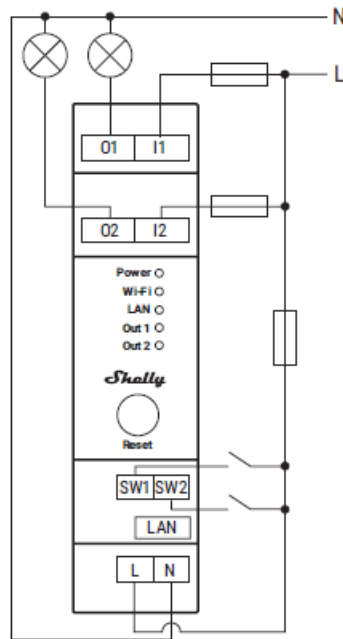

Fig. 1: Basic wiring diagram
1. Connect the N terminal to the Neutral wire and the L terminal to the Device power supply circuit breaker as shown in Fig. 1